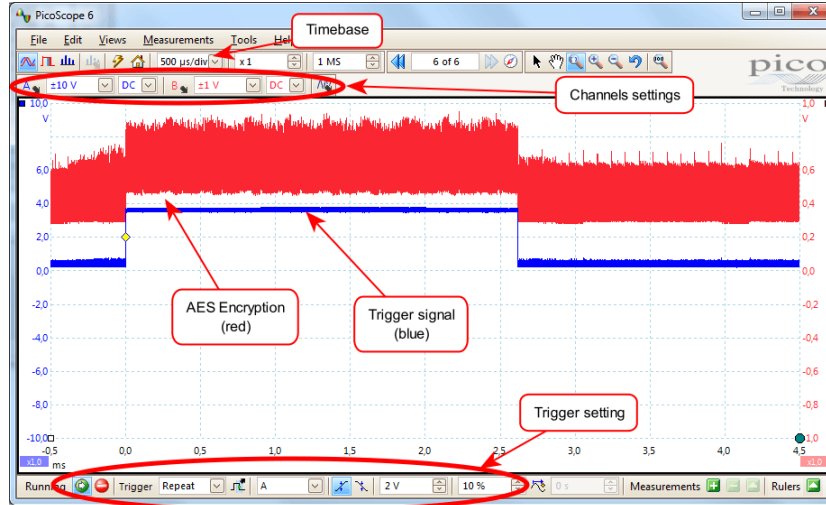

Fig. 6 Powertrace of one encryption.
10. Set the *Single* measurement at the oscilloscope, and send data to the card using *JSmartCard Explorer* from Primiano Tucci. You should see a waveform like in Figure 6.